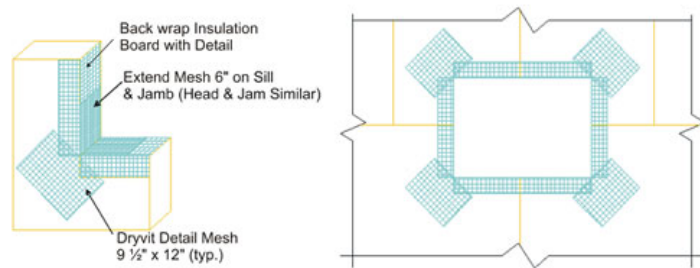

Figure 19
- 19. Corners of all openings such as windows, doors, mechanical equipment and all penetrations shall be reinforced with Detail Mesh placed diagonally to the opening as illustrated in Figure 19.